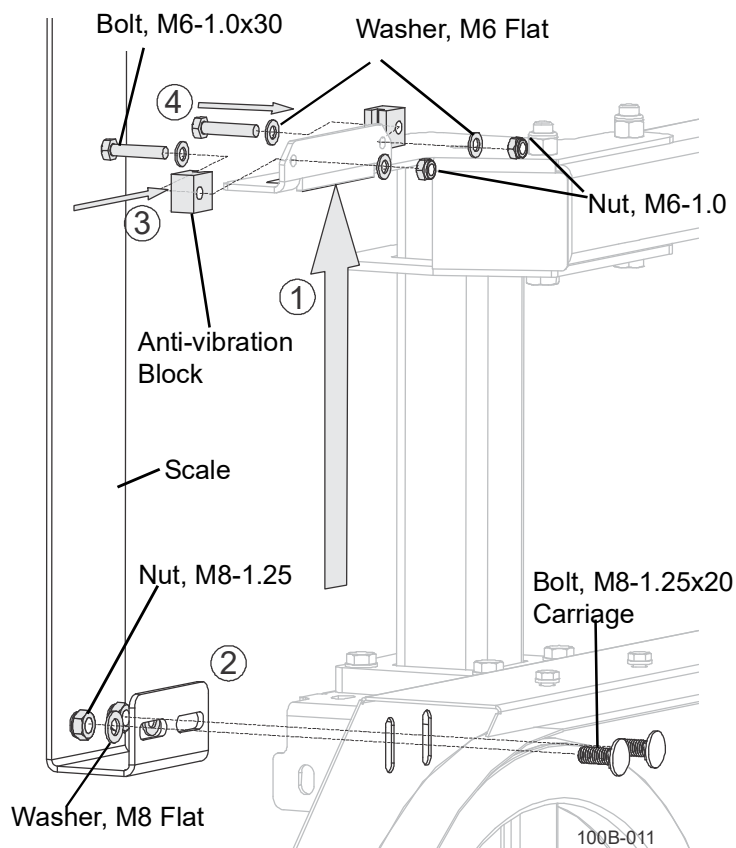

FIG. 1-31
4. Return the set screw and tighten it. See FIG. 1-31.
1. Slide the scale through the bracket on the mast with the scale facing the operator, as shown at ① in FIG. 1-31.
3. Loosely secure the sawhead with M8-1.25x20 carriage bolts (inserted from the inside of the sawhead, as in the cut-away view, with washers and nuts on the exterior, as shown at ② in FIG. 1-31.
4. Slide the anti-vibration blocks onto both sides of the scale, as shown at ③ in FIG. 1-31.
5. Fasten the anti-vibration blocks with the provided hardware, as shown at ④ in FIG. 1-31.
The scale should slide freely through the blocks. See FIG. 1-31.